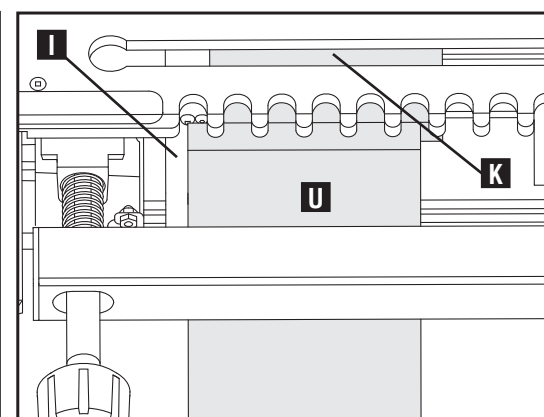

Fig. F12
10. Unclamp the horizontal pinboard (K) Fig. F12 and slide it forward so that it is flush against the vertical tailboard (U) and flush against the silver left edge guide (I).